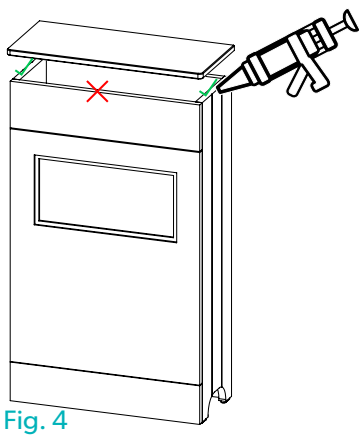

Fig. 4
3. Once installed, the quartz counter top can be put into place, It is recommended that a fine bead of silicone is applied underneath the counter top to secure it in place. Silicone should only be applied on the left and right hand sides of the unit (As per Fig. 4), otherwise access to the cistern will be sealed closed.